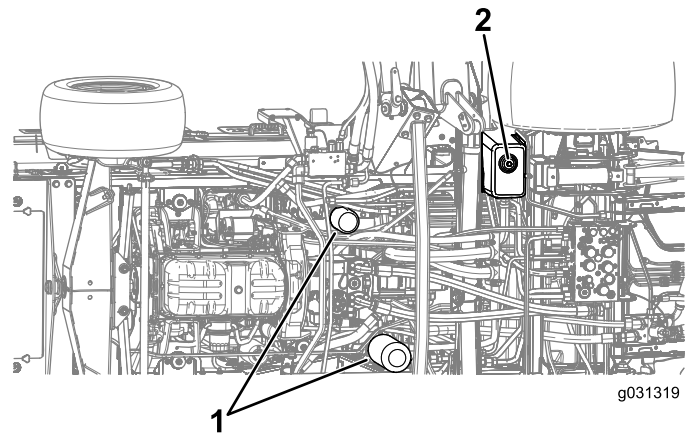

Figure 129
- Remove the drain plug from the bottom of the tank and let the hydraulic fluid flow into the pan (Figure 129).
- Place a drain pan under the filter and remove the filter (Figure 129).